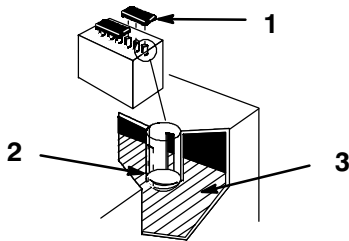

Figure 44
1. Open covers to see into the cells. The electrolyte must be up to the lower part of the tube (Fig. 44). Do not allow the electrolyte to get below the plates. (Fig. 44).
2. Lift off the filler caps (Fig. 44).
3. Slowly pour distilled water into each battery cell until the level is up to the lower part of the tube (Fig. 44).